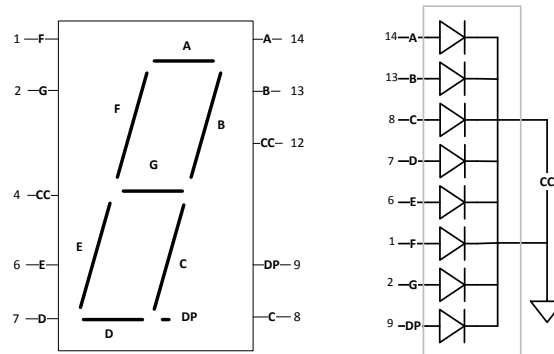

Figure 2: MAN 74 7-Segment Display
- 1.2. Fill in the truth table for the BCD-to-7-segment decoder shown in Table 1, e.g., if the input is 0011, LEDs a, b, c, d, and g should be on while LEDs f and e will be off (“1” is LED on, and “0” is LED off). See Figure 2 for reference.